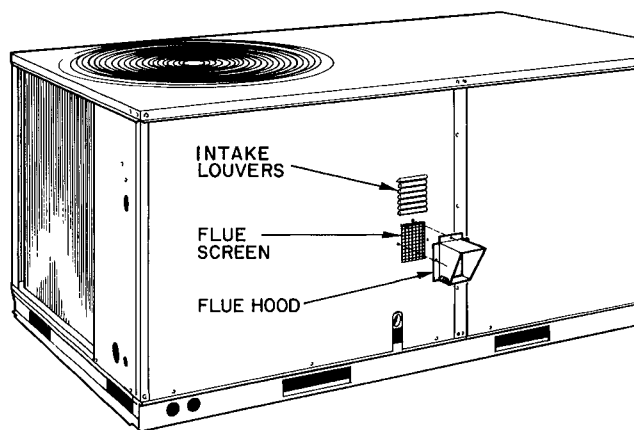

Fig. 7 — Flue Hood Details
Step 5 — Install Flue Hood — Flue hood and screen are shipped screwed to the burner compartment access panel. Remove from shipping location and using screws provided, install flue hood and screen in location shown in Fig. 7.